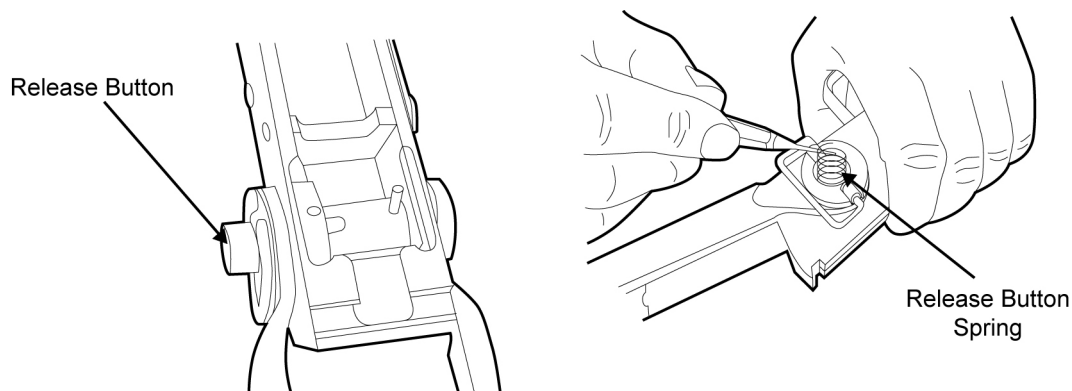

Figure 30. Removing the Release Button and Release Button Spring.
- c. Remove the release button and release button spring from the buttstock axle. It may be necessary to use the end of a scraper tool or punch to remove the release button spring. Refer to Figure 30.